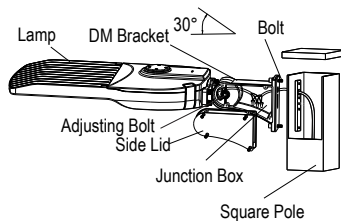
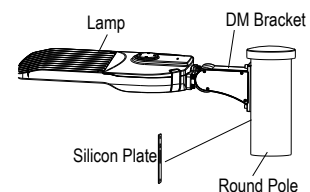

Figure 22
Figure 24
4. Direct Mounting (DM)
Step 1: Attach the DM bracket to the square pole with a bolt, open the side lid of the DM bracket, pull the wire into the junction box, and connect the wire correctly (Figure 22).
Notice: The adjustable angle range is 0-30° (Figure 22). For round pole installation, ensure the silicon plate is removed before installing the fixture (Figure 24).